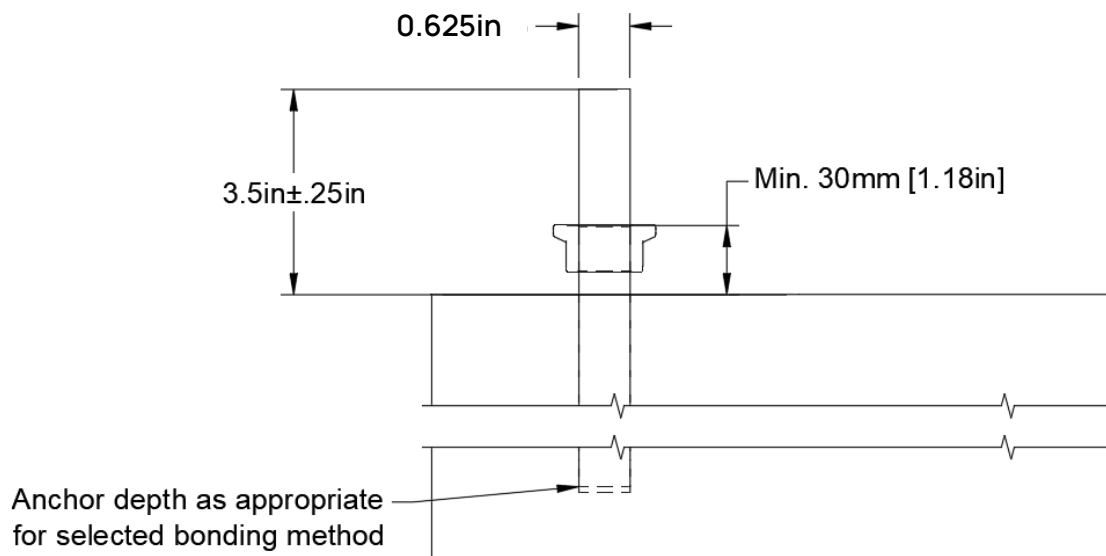

Figure 9: Anchor bolt detail - 1
IMPORTANT NOTE: The height of the 4 threaded anchors (A) should rise 3" (76.2 mm) above the FLO Ultra surface mount and have a diameter of 5/8" (15.8 mm). See *Figure 9: Anchor bolt detail - 1*.